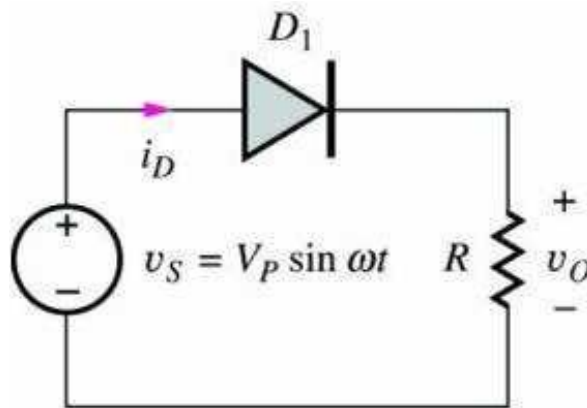

Figure 3 Diode Half-Wave Rectifier Circuit
1. Build a half-wave diode rectifier circuit using a Si 1N4148 diode, as shown in Fig. 3. Use a 5 V_{pp} sinusoidal input waveform from the function generator. Use a resistor value of $1\text{ k}\Omega$ at the output.